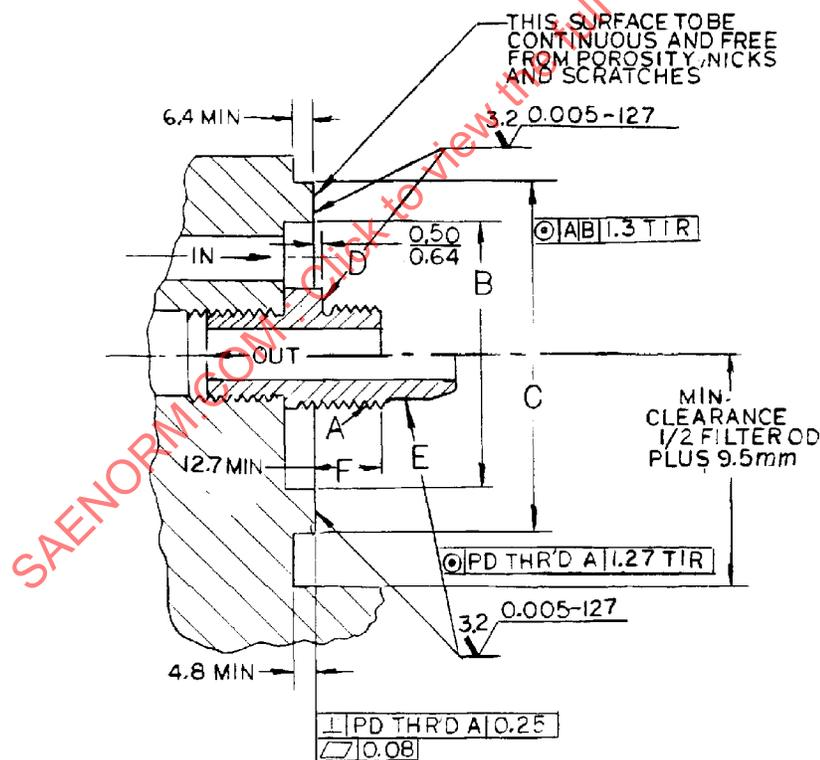

FIGURE 2—DIESEL FUEL SPIN-ON FILTER-BASE MOUNTING
3.2 Diesel Fuel Spin-On Filter-Base Mounting—Figure 2 is a composite drawing which outlines the base mounting and clearance requirements for spin-on fuel filters. Optional methods of preventing fuel leakage by the insert threads may be provided by means of a radial seal boss Type E or a compression seal member type D as shown, respectively, in the upper and lower halves of the drawing. The insert is to be threaded full distance F plus at least one full thread.